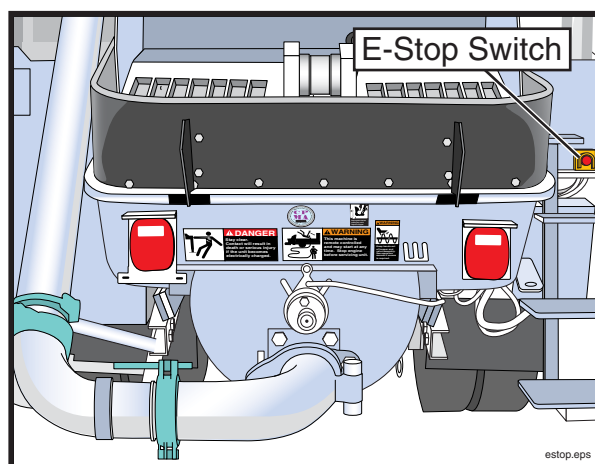

Figure 72
- 16.1 **WARNING** You must know how to stop the pump and boom. Have the operator show you the locations of the emergency stop switches (Figure 72).